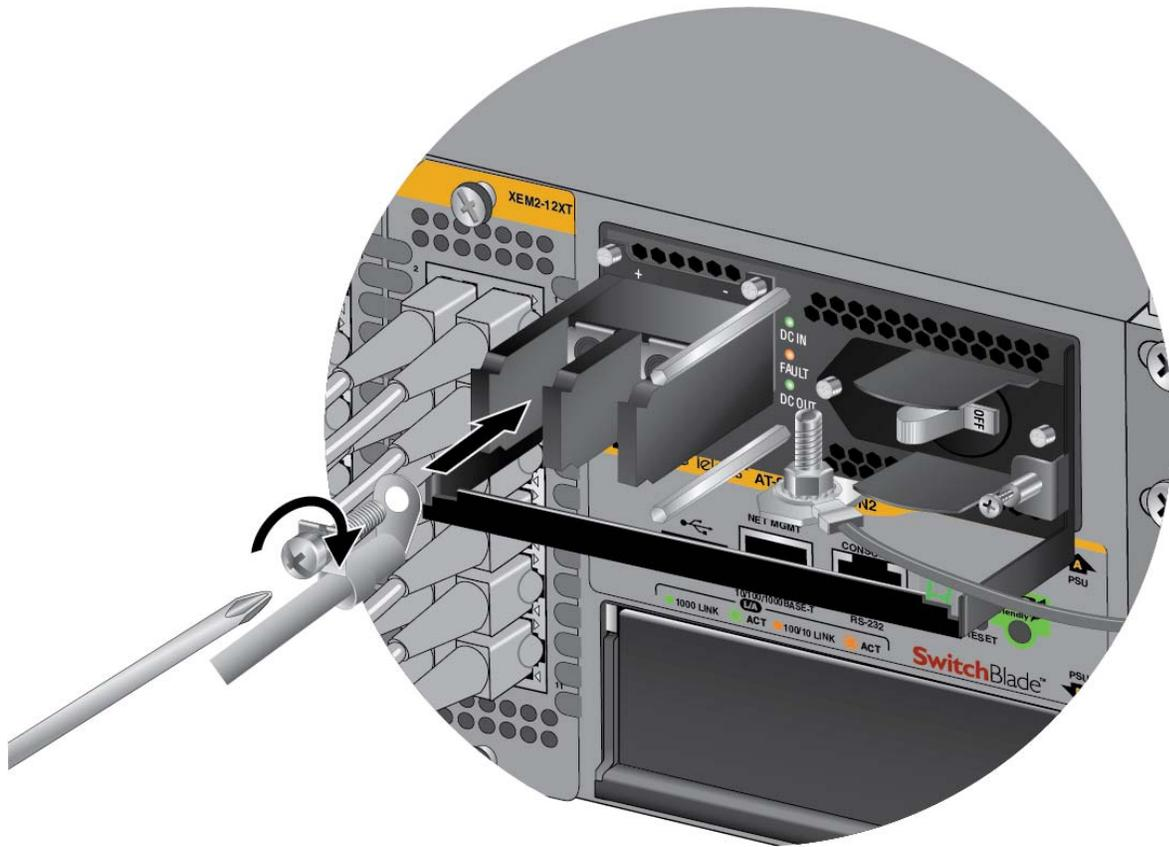

Figure 90. Connecting the Positive (+) Power Wire with a Right Angle Terminal
6. With a #3 Phillips-head screwdriver, connect the positive (+) power lead wire to the positive terminal on the power supply, with one of the terminal screws removed in the previous step. The positive terminal is on the left. Refer to Figure 90 on page 142.